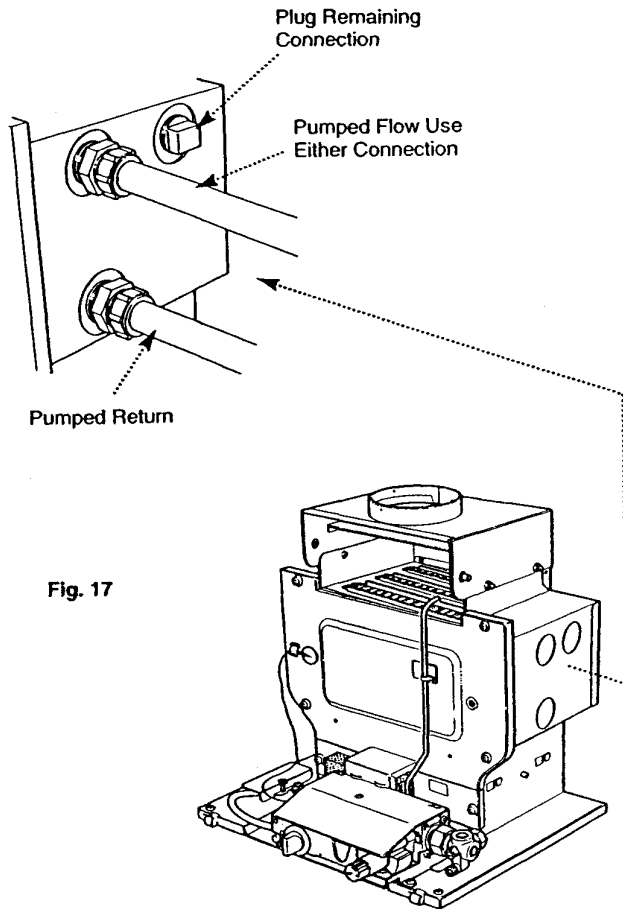

Fig. 17
5.7 Fully Pumped Systems (Fig. 17)